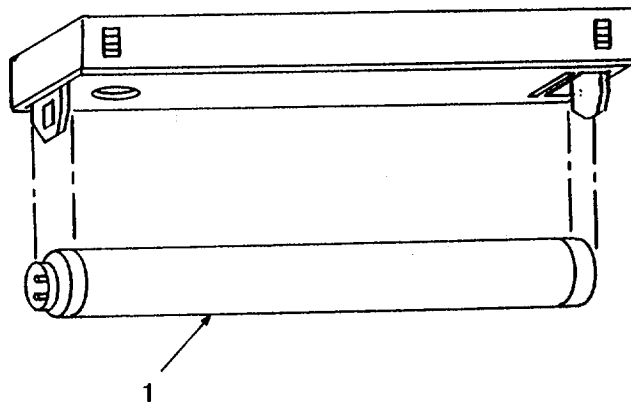

Figure 3-1. Safelight Assembly Lamp
a. Inspect (See Figure 3-1.)
- (1) Inspect light fixture for broken bulb.
- (2) Place light switch circuit breaker in ON position and check light for operation.
b. Replace. (See Figure 3-1.)
- (1) Remove lamp (1).
- (2) Install lamp (1) in light fixtures by aligning lamp contacts with slots in both ends of lamp fixture and turning one-quarter turn clockwise.